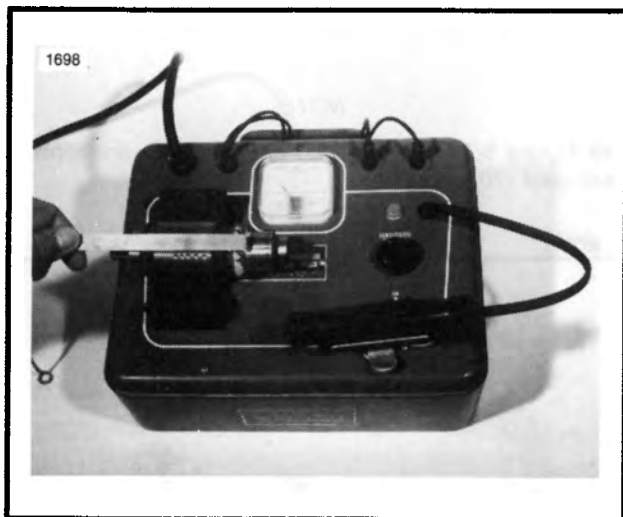

Figure 5-36. Shorted Armature Test Using Growler
- See Figure 5-36. Check for **SHORTED ARMATURE** with a growler. Place armature on growler. Hold a thin steel strip (hacksaw blade) against armature core and slowly turn armature. A shorted armature will cause the steel strip to vibrate and be attracted to the core. Shorted armatures should be replaced.